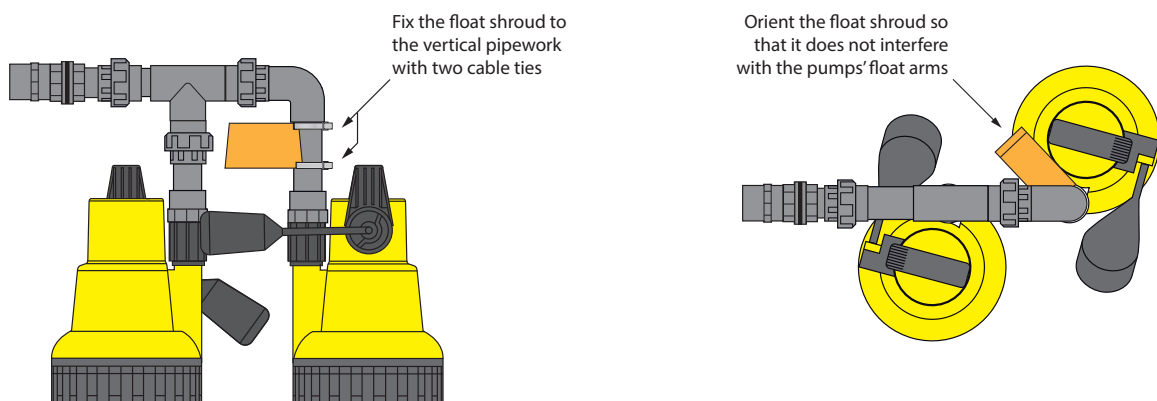

Figure 8. Fixing and orienting the float shroud.
2. The mini float switch should be installed in the float shroud. The float shroud should be positioned on the vertical pipework of the rear pump so that it butts up to the base of the elbow and secured with cable ties. See Figure 8.